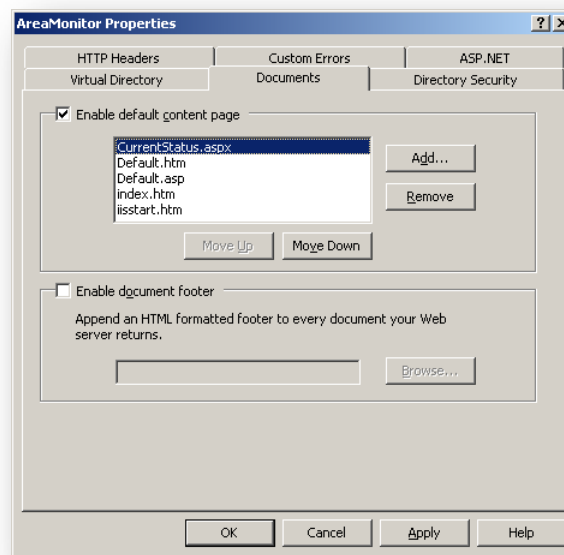

Figure 74 – AreaMonitor Properties (Documents)
5. Click “OK”. The SQL Server Management Studio window should resemble Figure 74.